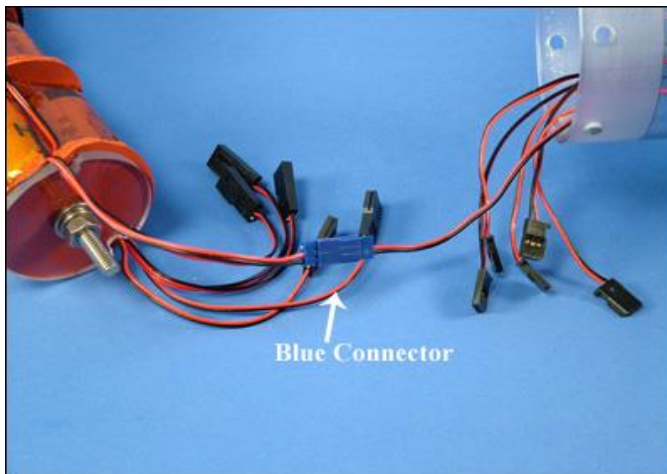
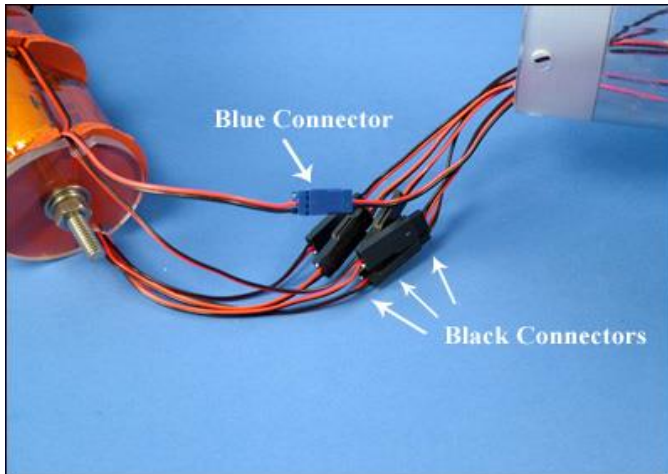

Fig. 8 Blue VHF connectors mated
Fig. 9 Connectors mated and ready for installation in housing.
4. Connect the blue VHF connector of the battery assembly **PS008530-045** to the blue VHF connector of the electronics package. Then connect the black connectors of both battery assemblies **PS008348-065** and **PS8530-045** to the black connectors of the electronics package. **(Fig. 8) (Fig. 9)**